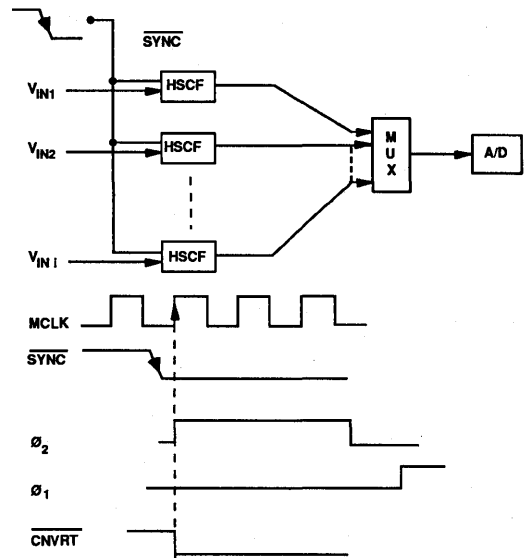

Figure 2.7 Multiple HSCF Sync
The other part of the synchronization issue involves telling the HSCF24040 *which* master clock period should be aligned with the falling edge of the *CNVRT* signal. As an example of why this is necessary, consider the case of multiple HSCF24040's that feed a MUX prior to A/D conversion. This is shown in Figure 2.7. If it is desired that all of the HSCF24040's sample their inputs *simultaneously*, then they must all be synchronized to each other. This can be accomplished by using a common master clock for all filters and by tying all of the *SYNC* (pin 14) inputs together and supplying a negative edge on this common *SYNC* input. On the next rising edge of the master clock, two things happen: (1) the $\phi 1$ and $\phi 2$ SC filter clocks are reset beginning with the rising edge of $\phi 2$ and (2) the *CNVRT* output goes low.